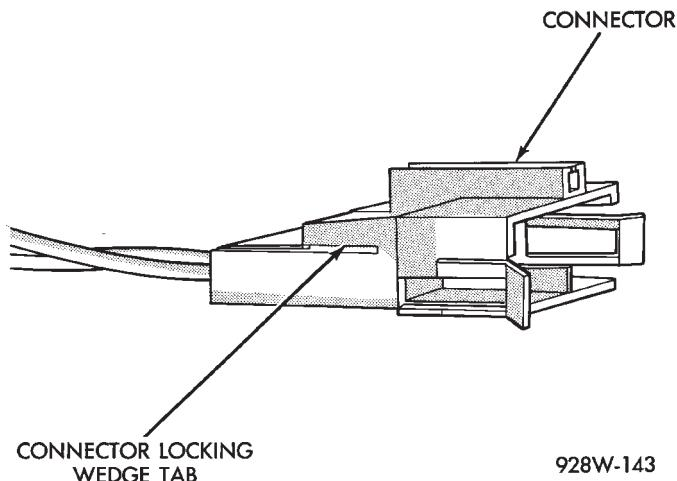

Fig. 11 Connector Locking Wedge Tab
- (1) Disconnect battery.
- (2) Disconnect the connector that is to be repaired from its mating half.
- (3) Remove connector locking wedge (Fig. 11).
(1) Disconnect battery.
(2) Disconnect the connector being repaired form its mating half.
(3) Remove connector locking wedge (Fig. 11).